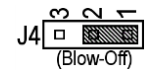

Fig. 16
6.1 Single Track Air Blow-Off Setting: Controllers with single track air blow-off are custom specified for each feeder and may have a unique part number. Refer to specific feeder drawings for connector pinout. To set for Single Track Air Blow-Off, place a jumper on J4 across pins 1 & 2, and move jumper on J2 across pins 1 & 2. See Fig. 16 & 17.